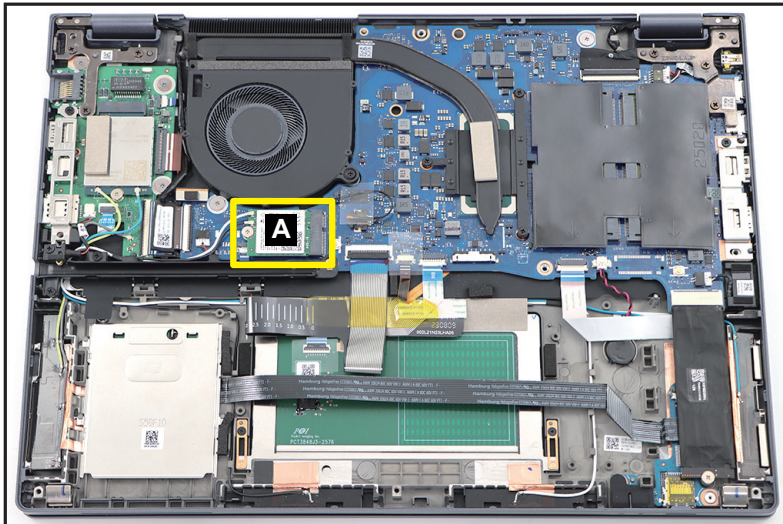

Figure 1-17. WLAN Module Location
1. Find the WLAN module (A) on the top assembly (Figure 1-17).